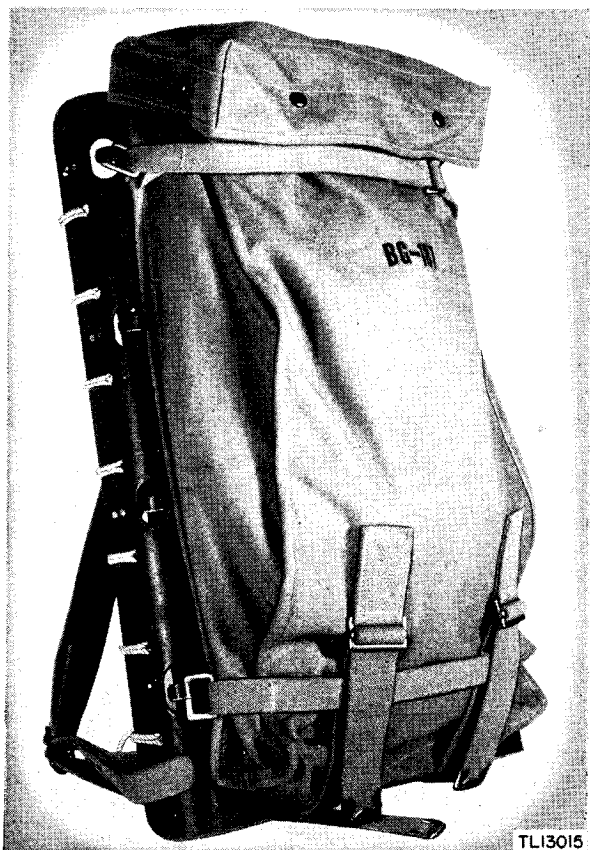

Figure 33. Bag BG-187, with components mounted on QM packboard.
for rope, washers, wingnuts, nails, and tape. The bag is attached to a standard Quartermaster (QM) plywood packboard by two web straps which pass over the top of the board, come under the bottom edge, and fasten to two buckles. Two additional horizontal straps fasten in front of the bag to hold the equipment in place in the bag. Figure 33 shows the Bag BG-187 mounted on the QM packboard.